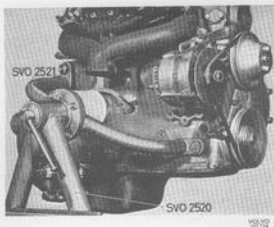

Fig. 2-24. Engine on stand
1. Place the engine on stand 2520 with fixture 2521 (see Fig. 2-24). Check that the oil has been drained off.